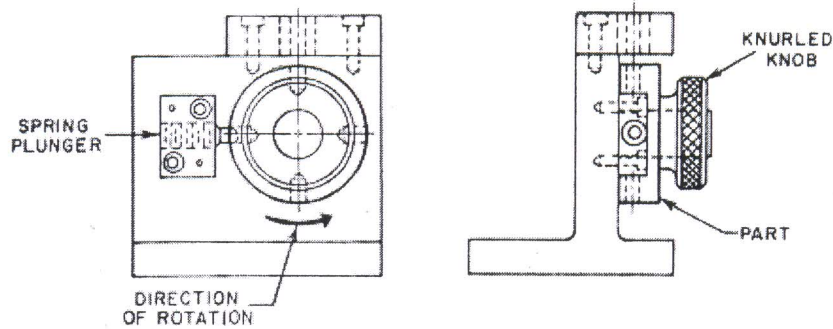

Figure 1
- (c) Analyze the jig in the Figure 1 below.